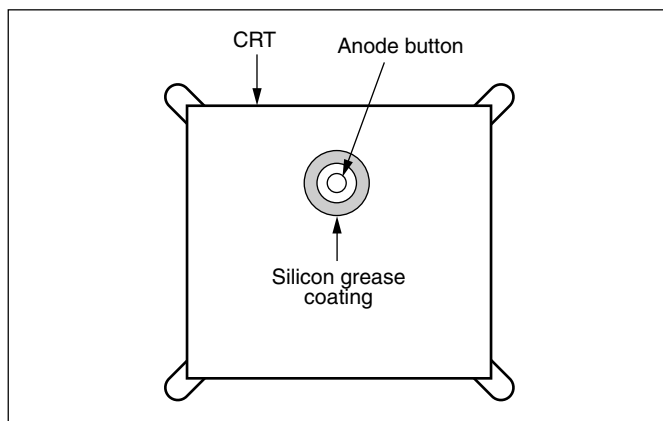

Fig. 5
- Subsequent to replacement of the CRT and HV transformer or repair of the anode cap, etc. by dismantling them, be sure to coat silicon grease for electrical insulation as shown in Fig.5.
- Wipe around the anode button with clean and dry cloth. (Fig.5)